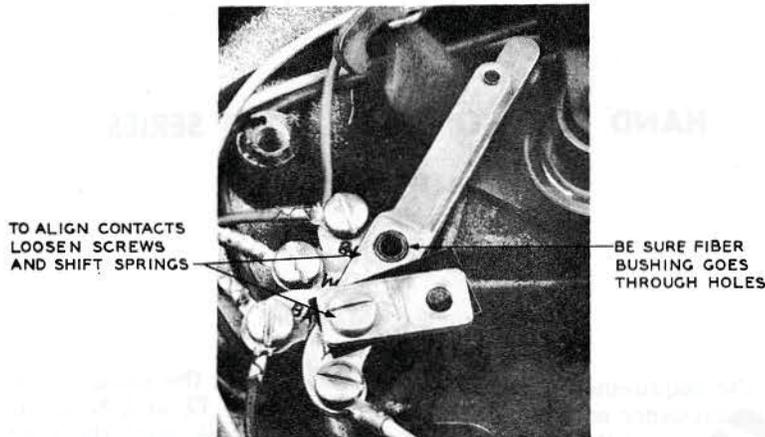

FIG. 3—CONTACT ALIGNMENT
3.05 To align contacts, loosen mounting screws on contact pile-up and shift springs (see Fig. 3).